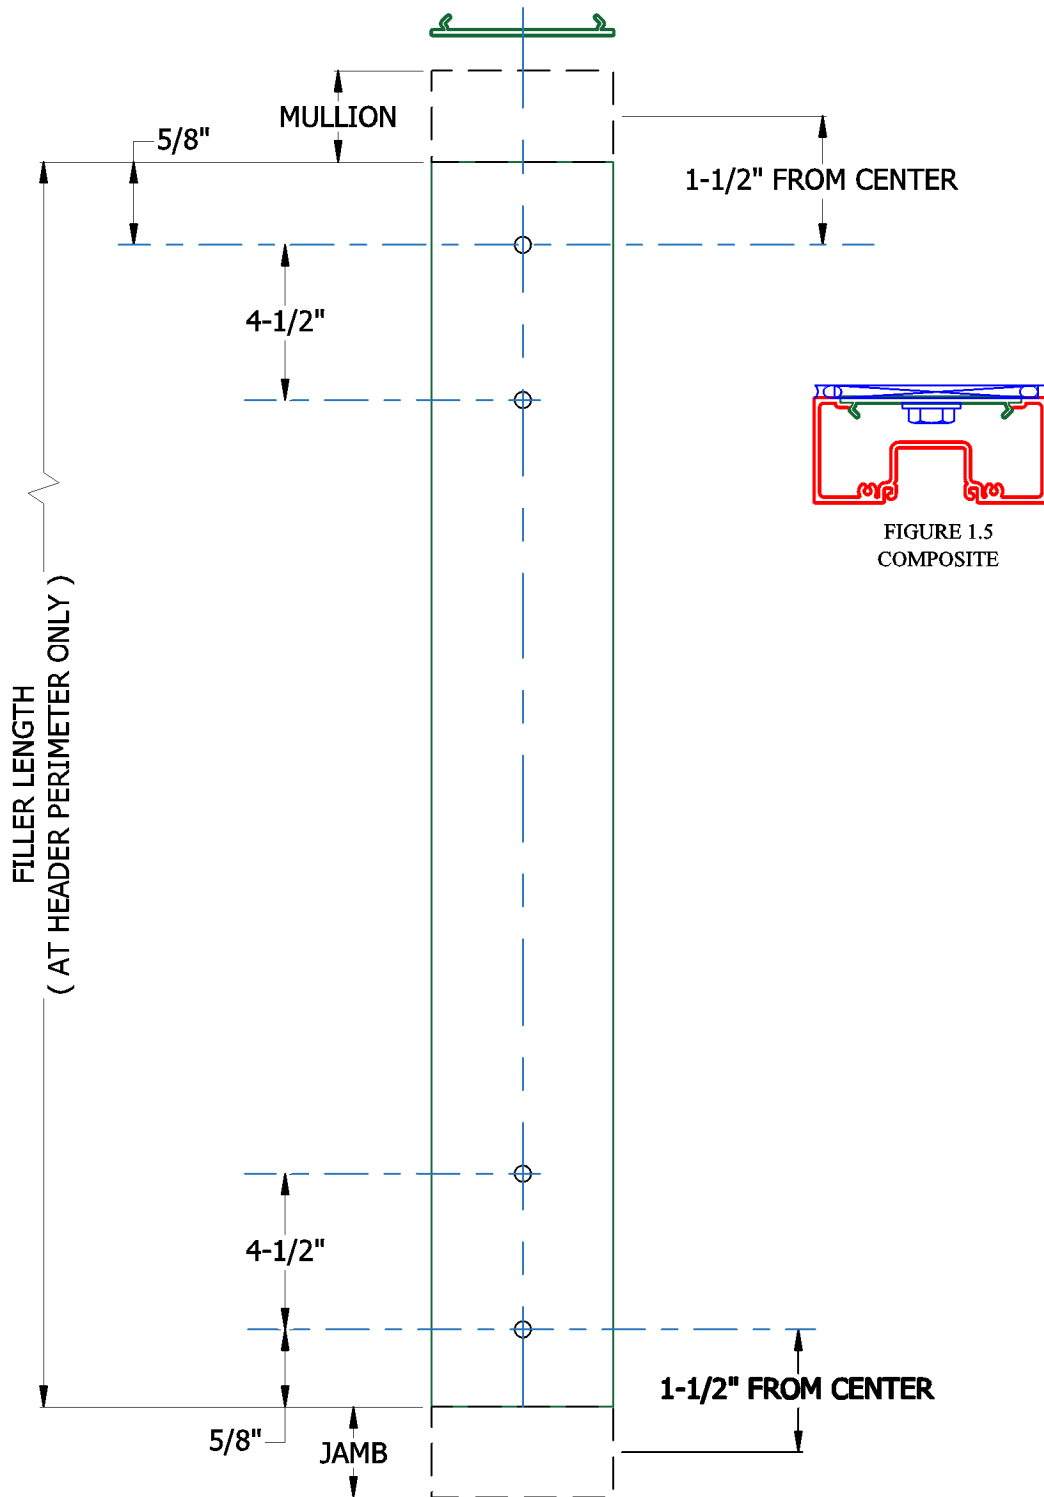

FIGURE 1.4
1.5 Offset 1st anchor hole location at 1-1/2" center from ends, 2nd hole location at 4-1/2" center from first hole location. **SEE FIGURE 1.4**